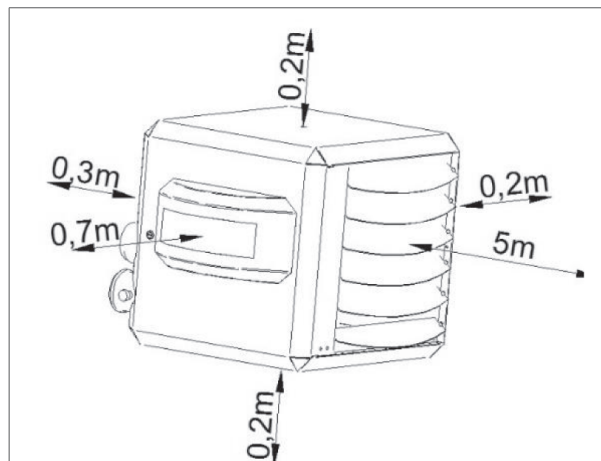

Figure 3 - Minimum clearances around the air heater
- Keep sufficient distance between the heater and any obstructions. This is both for safety reasons and to allow access for service and maintenance (figure 3).